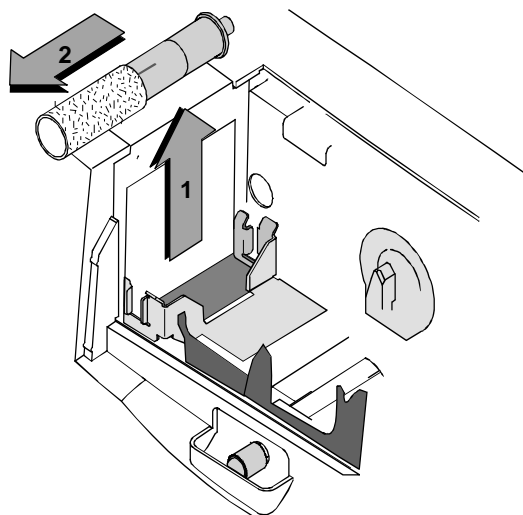

Figure 4-2: Lift the roller out of the printer
- 4 Lift the continuous cleaning roller unit out of the printer (step 1 in Figure 4-2).
- 5 Slide the used sleeve off the cleaning roller spindle (step 2 in Figure 4-2). Discard the used sleeve.